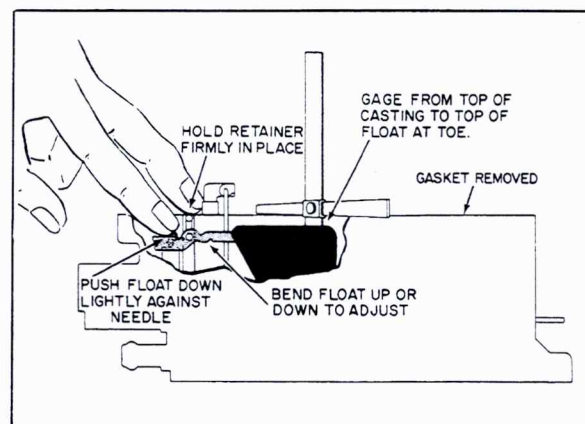

Fig. 6-76 Float Level Adjustment
79. Float Adjustment (Fig. 6-76)
2. With adjustable T-scale, measure from top of float bowl gasket surface, with gasket removed, to top of float at toe, Fig. 6-76. Locate gage point $1/16$ " back from radius on toe.